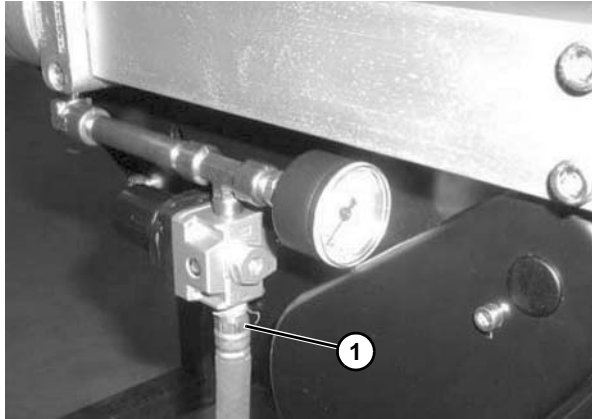

Figure 66
6. Reattach air supply (Figure 66, item 1) to center drive. Refer to “Center Drive Conveyor Belt Tensioning” on page 25” for more information.